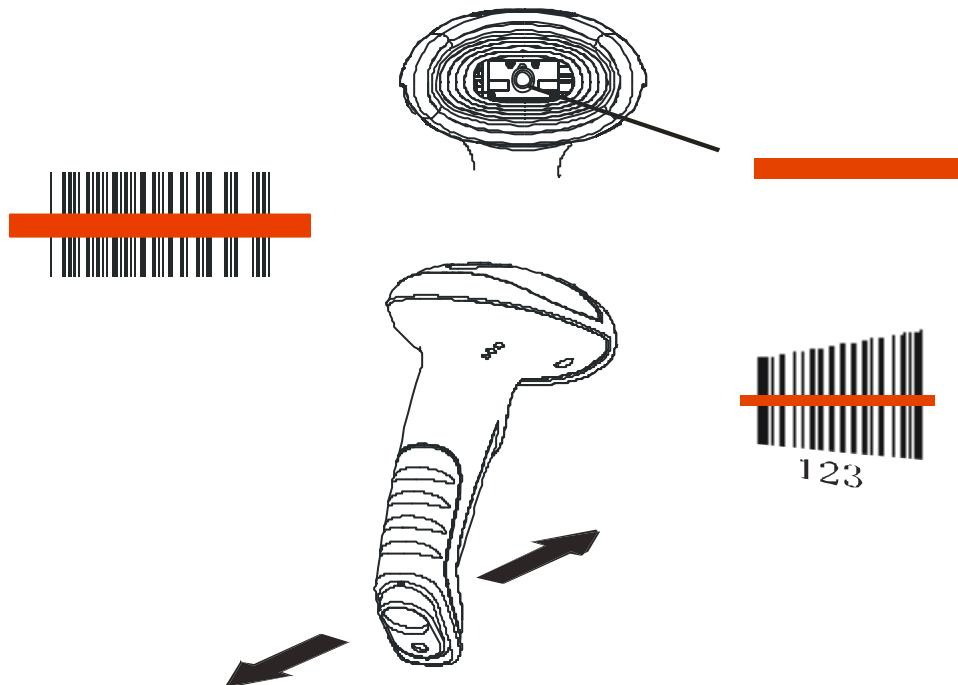

Fig. 1-9
- ❖ Aim the red beam across the center of barcode, as shown in Fig.1-9.